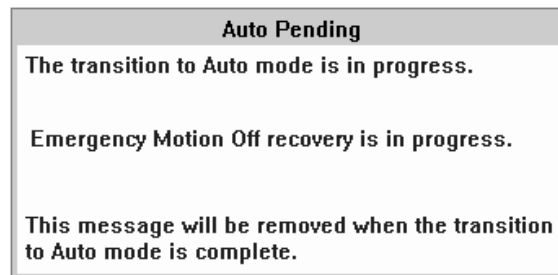

Figure 33. Auto Pending Pop-Up Window
6. The Auto LED on the operator panel flashes until the transition is complete and then stays lit. The Auto Pending pop-up window indicates that the library is changing from Pause mode to Auto mode (Figure 33). **Emergency Motion Off recovery is in progress** will appear in the pop-up window for a short time during this transition. When emergency motion off recovery is complete, the pop-up window closes.